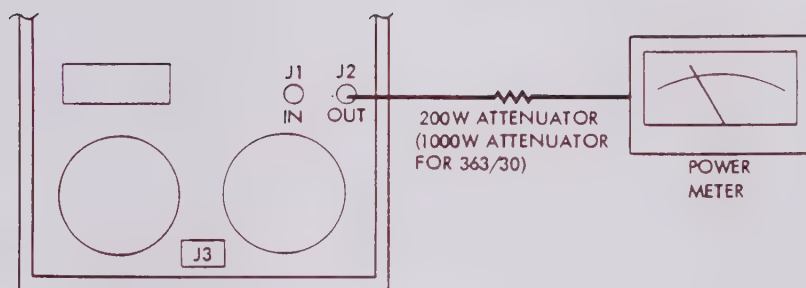

Figure 5-1. Setup for Amplifier Power Meter Adjustment
3. Connect serially an output attenuator and a power meter to output connector J2, as shown in Figure 5-1.